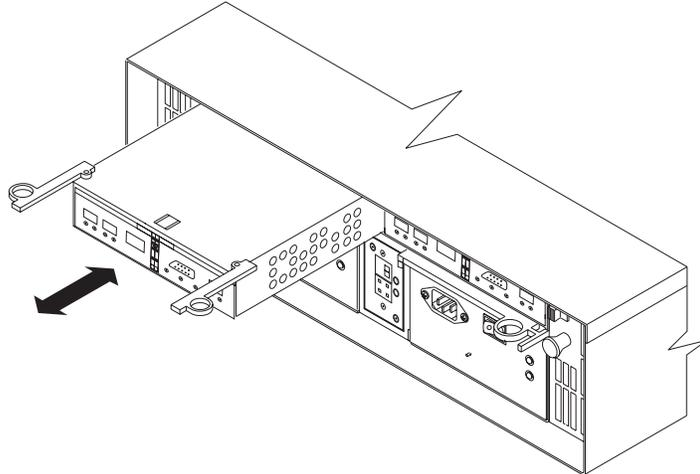

Figure 87. Pull-rings for removing a controller
- b. Grasp the pull-rings (see Figure 87 on page 119), then pull on the levers and remove the RAID controller.